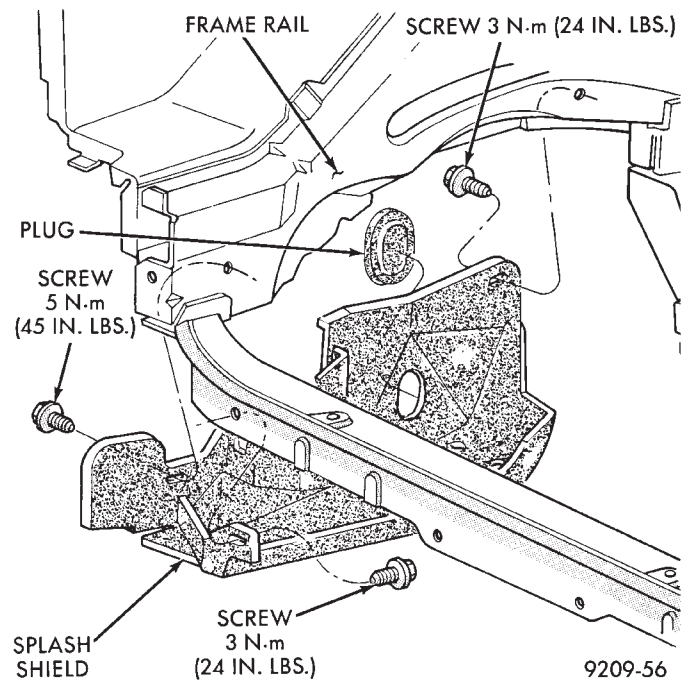

Fig. 8 Right Inner Splash Shield—Typical
- (2) Remove screws attaching air conditioning compressor mounting bracket and adjustable drive belt tensioner from block and engine mounting bracket. Remove both assemblies.
- (3) Remove steering pump/alternator belt tensioner mounting bolt and remove automatic belt tensioner.
- (4) Remove two steering pump to engine mounting bracket screws and one rear support lock nut.
- (5) Lay power steering pump aside.
- (6) Raise vehicle and remove right inner splash shield (Fig. 8).